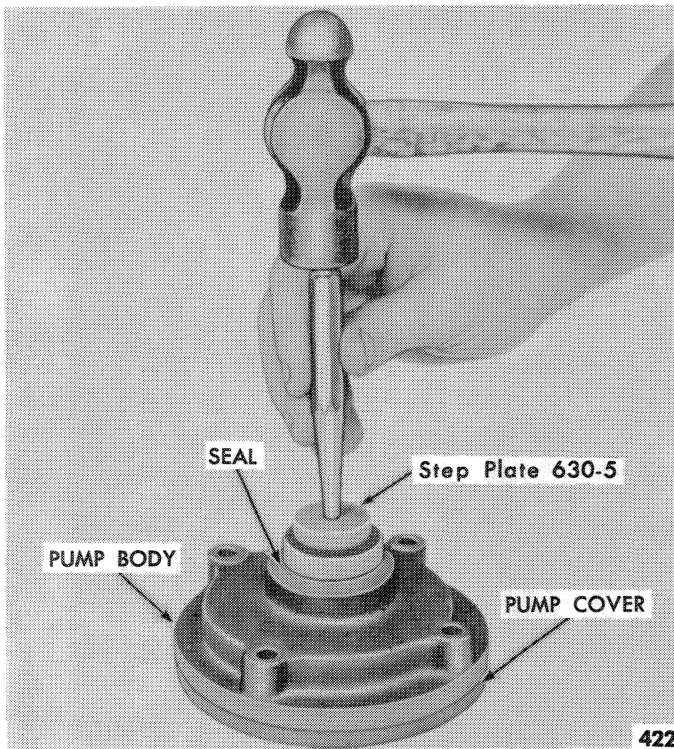

Figure 103—Servicing the Pump
2. Replace the seal in the pump with Step Plate 630-5, as shown in Figure 103.